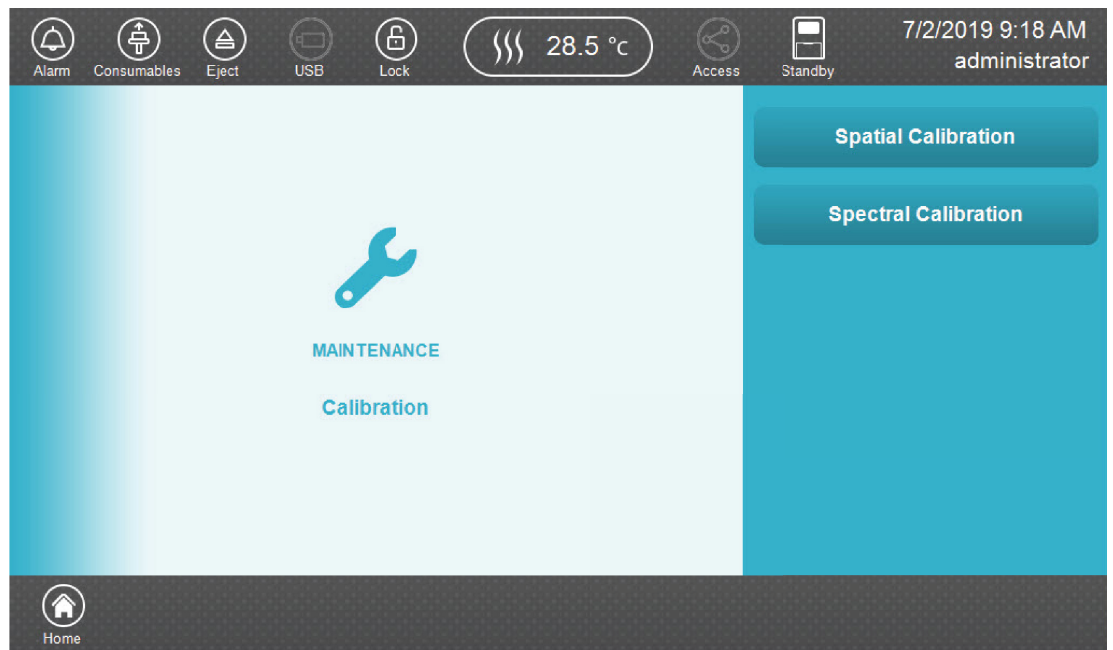

Figure 47. 'Maintenance Calibration' screen.
3. Select **Calibration** on the maintenance portion of the 'Main Menu' screen (Figure 45) then select **Spectral Calibration** on the 'Maintenance Calibration' screen (Figure 47).